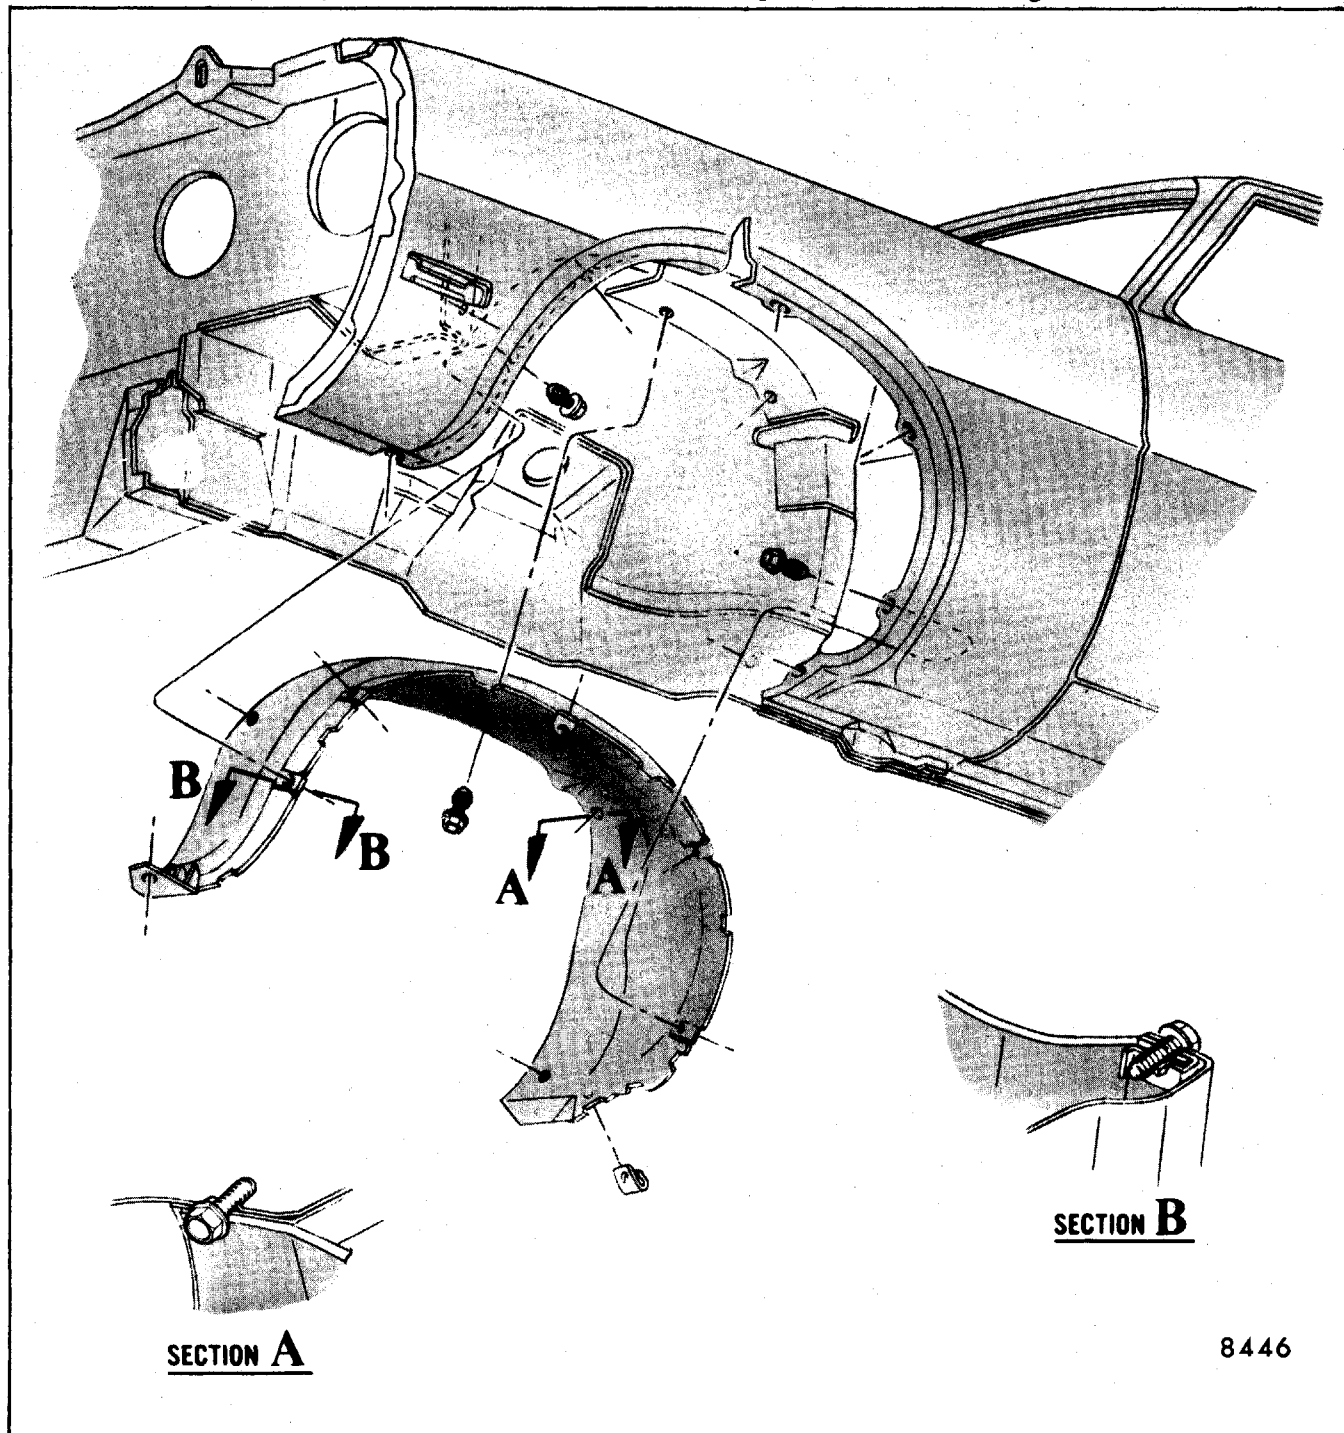

Fig. 4-32-Front Wheelhouse Outer Panel Retention
2. Remove front wheelhouse outer panel (Fig. 4-32).